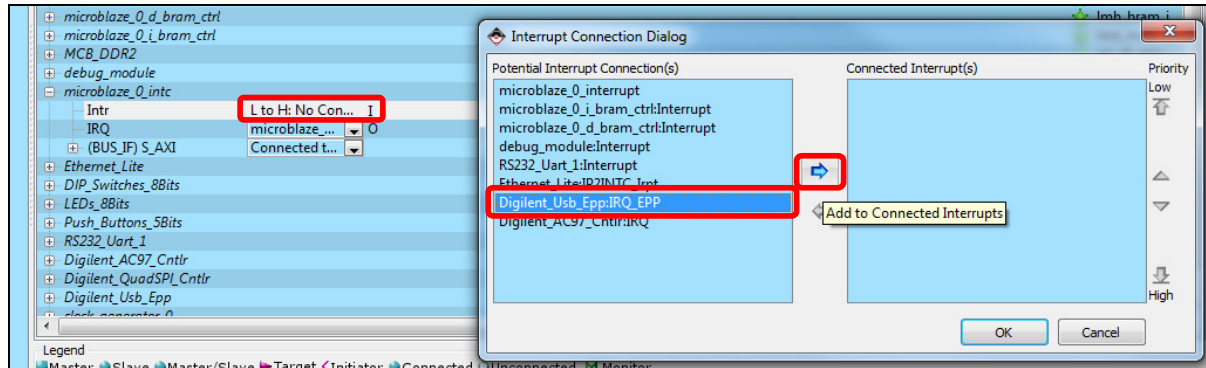

Figure 5. Connecting interrupt port to the interrupt controller
- c. On the “Ports” tab, in XPS, expand *microblaze_intc_0* instance and click on the “Net” of “Intr” port. An “Interrupt Connection Dialog” appears. Select the interrupt port: **Digilent_Usb_Epp_IRQ_EPP**, shown in Figure 5 below, click on the arrow to add the connection then press OK.